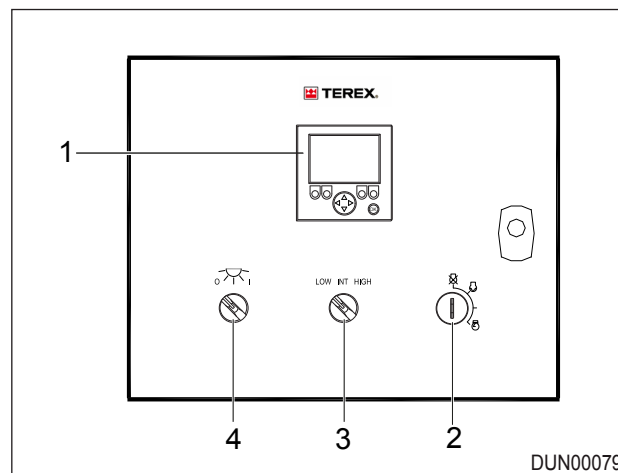

Figure 7.3 - Control Panel
1. Switch the engine speed switch (Item 3) to low, Reference: Figure 7.3.